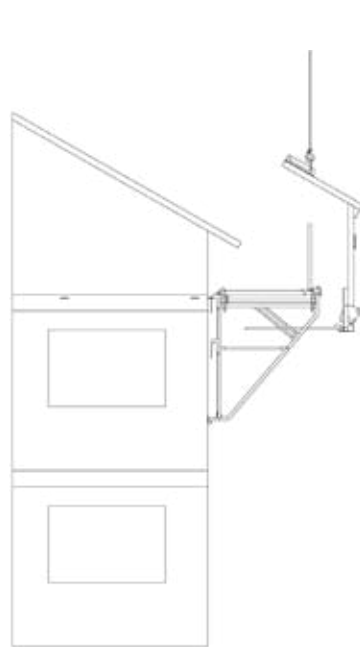
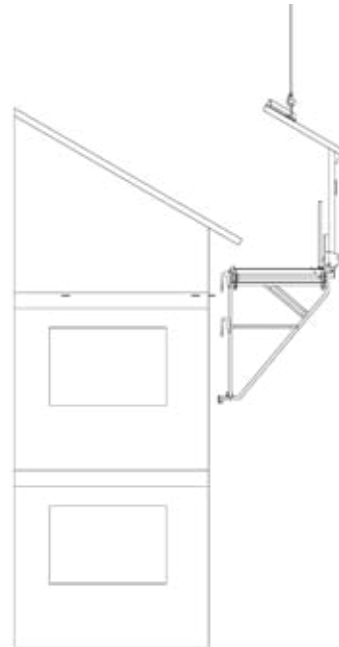

Fig. 50.1
Fig. 50.2
3. Move the transport spreader up to its limit stop under the working, corner or Uni-platform to be transported (Fig. 50.1). All platforms must only be transported with the railing folded up and after checking them visually (Fig. 50.2 and 50.3).